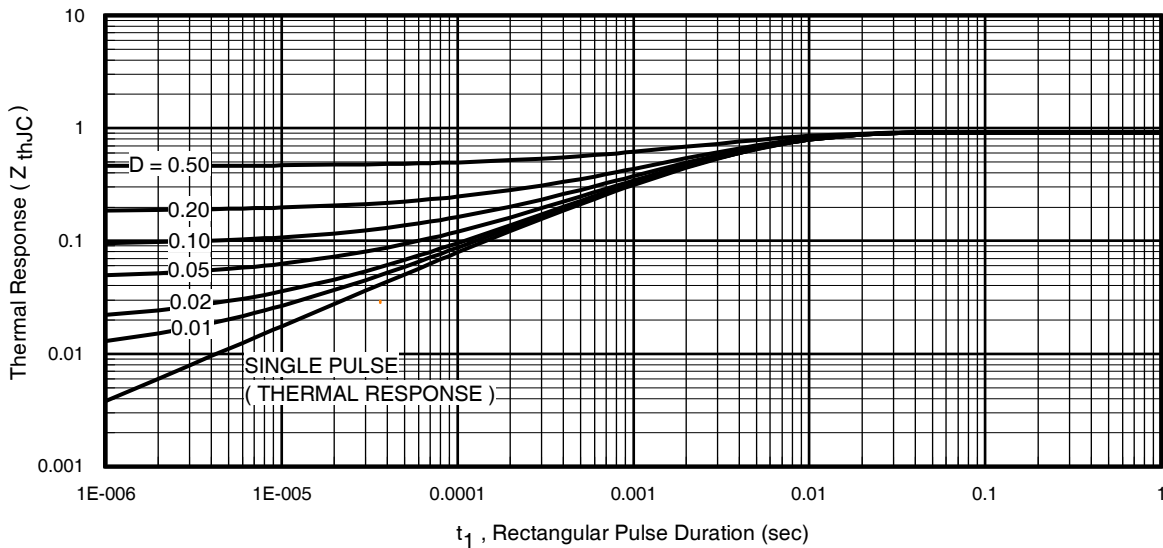
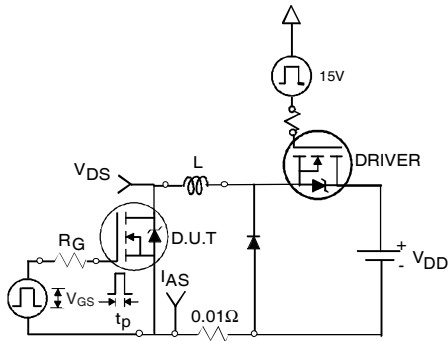

Fig 11. Maximum Effective Transient Thermal Impedance, Junction-to-Case
Fig 12a. Unclamped Inductive Test Circuit
- ① Repetitive rating; pulse width limited by max. junction temperature. (See fig. 11).
- ② Limited by T_{Jmax} , starting $T_J = 25^\circ\text{C}$, $L = 0.27\text{mH}$, $R_G = 25\Omega$, $I_{AS} = 35A$, $V_{GS} = 10V$. Part not recommended for use above this value.
- ③ $I_{SD} \leq 35A$, $di/dt \leq 380A/\mu s$, $V_{DD} \leq V_{(BR)DSS}$, $T_J \leq 175^\circ\text{C}$.
- ④ Pulse width $\leq 1.0\text{ms}$; duty cycle $\leq 2\%$.
- ⑤ $C_{oss \text{ eff.}}$ is a fixed capacitance that gives the same charging time as C_{oss} while V_{DS} is rising from 0 to 80% V_{DSS} .
- ⑥ Limited by T_{Jmax} , see Fig. 12a, 12b, 15, 16 for typical repetitive avalanche performance.
- ⑦ This value determined from sample failure population. 100% tested to this value in production.
- ⑧ This is applied to $D^2\text{Pak}$, when mounted on 1" square PCB (FR-4 or G-10 Material). For recommended footprint and soldering techniques refer to application note #AN-994.
3. Equation below based on circuit and waveforms shown in Figures 12a, 12b.
$Z_{thJC}(D, t_{av})$ = Transient thermal resistance, see figure 11)